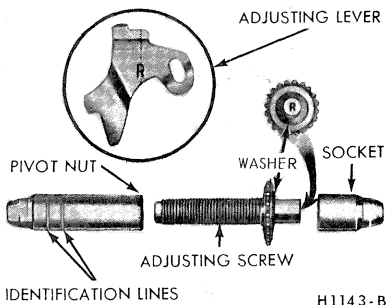

FIG. 6—Adjusting Screw and Lever Identification
Interchanging the brake shoe adjusting screw assemblies from one side of the truck to the other would cause the brake shoes to retract rather than expand each time the automatic adjusting mechanism operated. To prevent installation on the wrong side of the truck, the socket end of the adjusting screw is stamped with an R or L (Fig. 6) The adjusting pivot nuts can be distinguished by the number of lines machined around the body of the nut. Two lines indicate a right-hand nut; one line indicates a left-hand nut.
10. Hook the cable hook into the hole in the adjusting lever from the backing plate side. The adjusting levers are stamped with an R or L to indicate their installation on a right or left-hand brake assembly (Fig. 6).